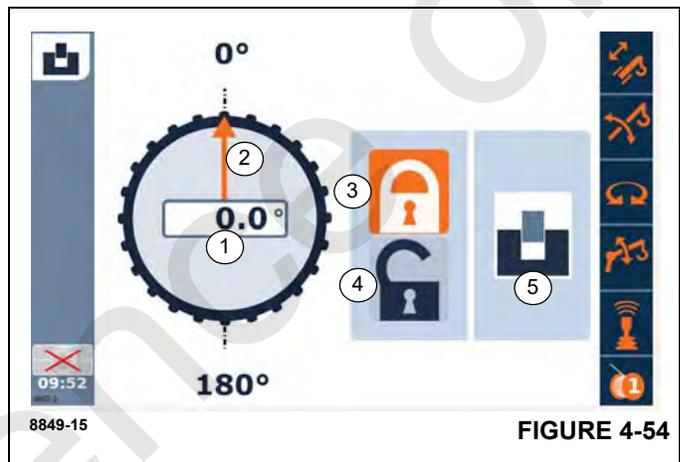

FIGURE 4-54
- To apply the 360° lock, use the jog dial to highlight (3), (Figure 4-54) and press Enter. Item (4), (Figure 4-54) should change from showing unlocked to locked (3). Item (5), (Figure 4-54) should change state when the 360 Lock is engaged.
- Select the symbol (4), (Figure 4-54).
Press the Enter button until the symbol (5), (Figure 4-54) is displayed with the pin out.